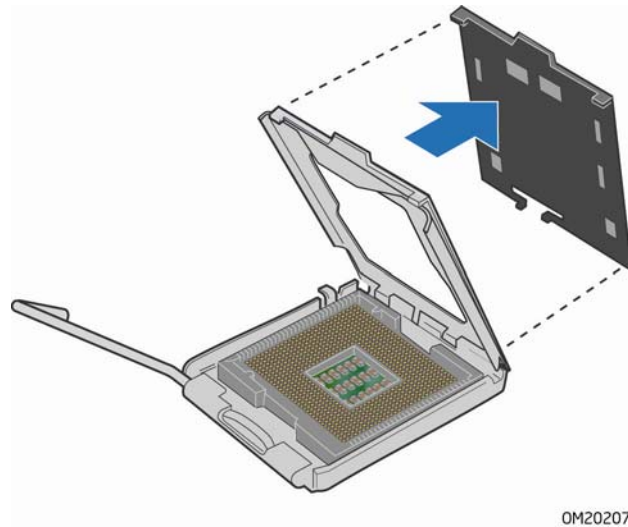

Figure 9. Remove the Protective Socket Cover
4. Remove the plastic protective socket cover from the load plate (Figure 9). Do not discard the protective socket cover. Always replace the socket cover if the processor is removed from the socket.